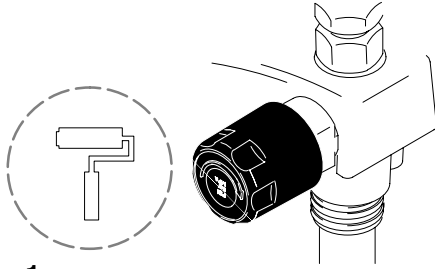

Fig. 1
4. Turn pressure control to lowest setting or roller symbol. Fig. 1.